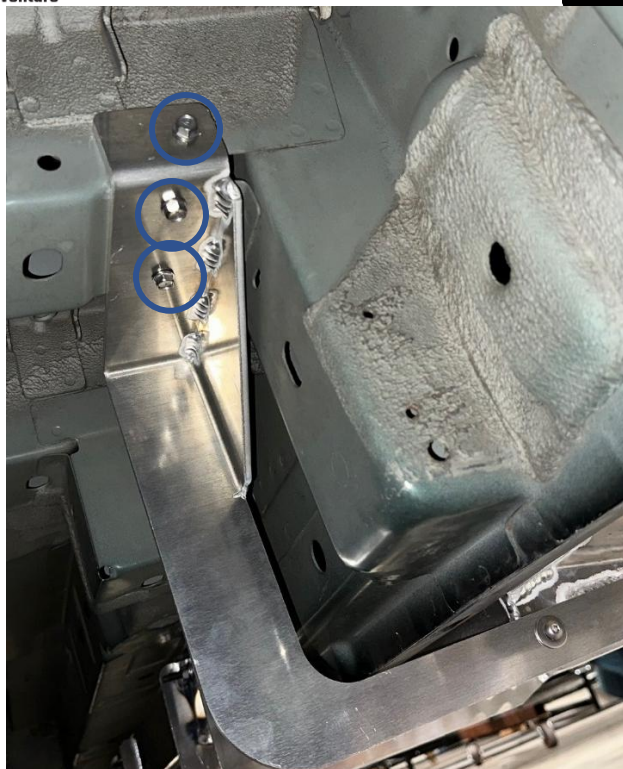

Figure 4: Passenger Side Support Bracket
8. Position the bracket as shown in figure 4 below and put the first self tapper (70231) into the small side flange, you may need to pinch or clamp the bracket to pull flush to that face.